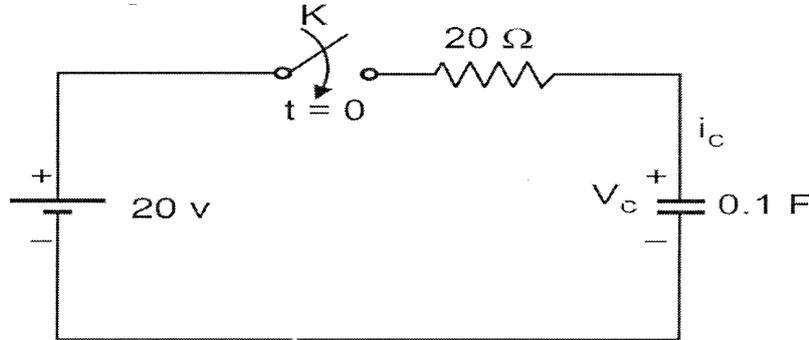

Fig. No.3
- Q4) a)** A series RC circuit in Fig No.3, the switch is closed at  $t=0$ . Find the expression for  $V_c(t)$  using Laplace Transform method. [6]